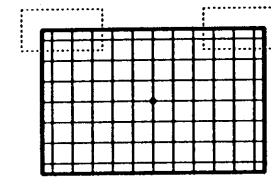

FIG. 16
28. RJ79 (S KEY) controls the blue line along the top of the screen. Adjust RJ79 so that the top line at the right and left hand sides become equal distance and on the same side of the green. See Fig 16.